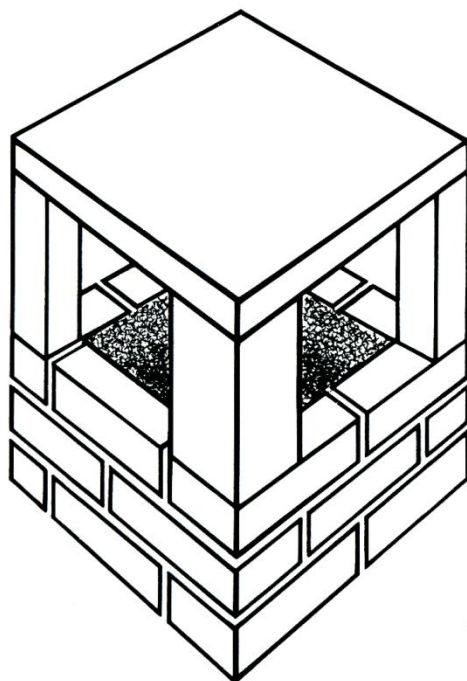

FIG.10
**Remedy** If the trouble is recurrent, replace the pot with a shorter one of a larger size, or use smokeless fuel. The 'dovecote' top shown in FIG.10 is sometimes used to protect large flue outlets against wind and rain, and is probably the least objectionable terminal for the purpose; it is not, however, intended to replace the recommended square or circular termination, which should be built into the brickwork so that only 50 mm (2in) or so projects above the stack.
**Remedy** The simplest remedy is to protect the top of the chimney with a cowl (FIG.16) or dovecone top (FIG.10).